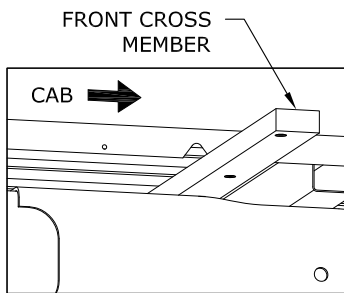
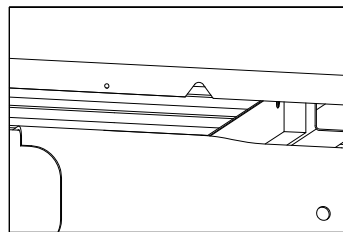
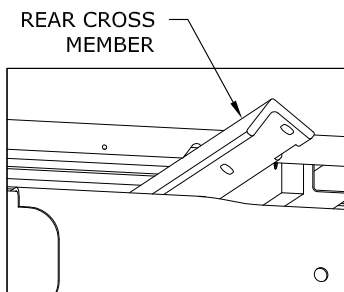
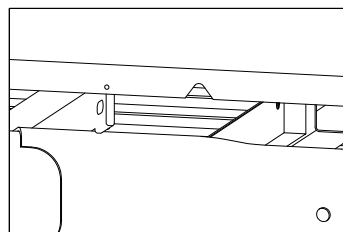

FIGURE B1
FIGURE B2
FIGURE B3
FIGURE B4
1. Place Cross Members. Using the notch cut in the bed flange inside the passenger side rear wheel well, slide the cross member across the frame until it spans both frame rails, See figure B1. Rotate cross member so that the holes on the end of the cross member are closest to the floor of the bed. Push cross member forward against bed cross member, See figure B2. Using the notch for clearance install the rear cross member with the angle oriented so that the leg with the slotted holes is facing the front of the truck, See figure B3. Hold the rear cross member in an inverted V position, and push the angle across the frame. Slide the cross member toward the rear of the truck so that there is approximately 10 inches between both cross members. Then rotate the cross member so that the leg with the slotted holes is vertical, See figure B4.